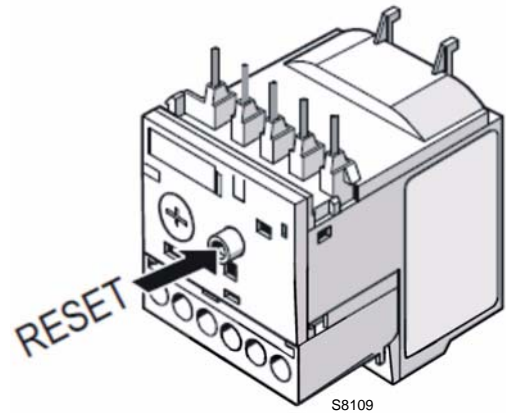

Fig. 25
- To reset, in the case of an intervention of the thermal relay, press the button **"RESET"** (Fig. 25).